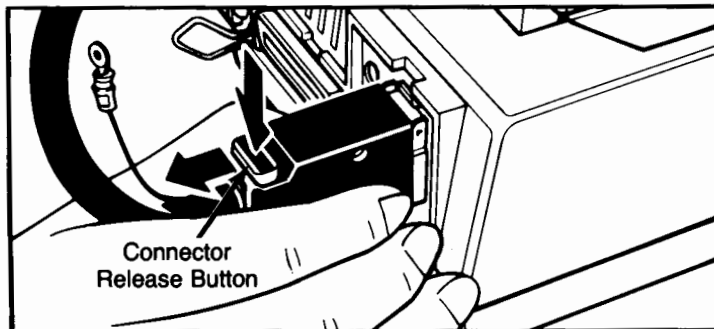

Figure 4-12. Removing the ADF Connector
1. Unscrew the ADF connector cable ground wire. Then, while pressing the ADF connector release button, disconnect the cable. See Figure 4-12.